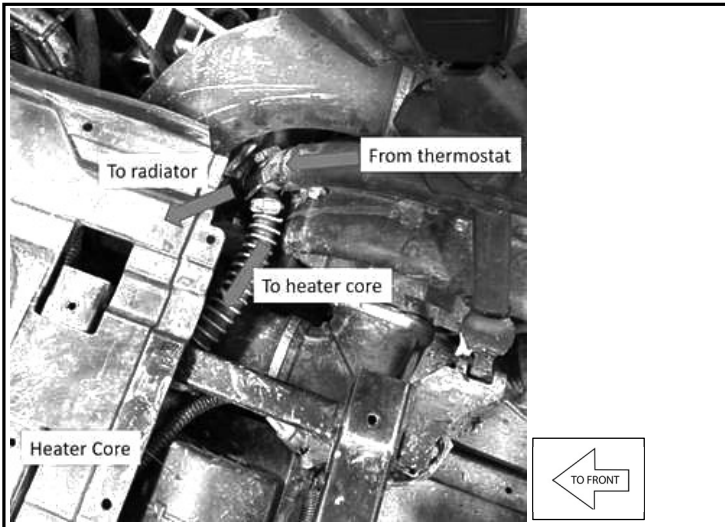

Fig. 2
6. Install the ③ O-ring between the engine block and ④ Thermostat Housing Spacer. Place the thermostat on the ④ Thermostat Housing Spacer. (Fig. 2)
7. Align the small hole in the thermostat toward the front of the vehicle. (Fig. 2)